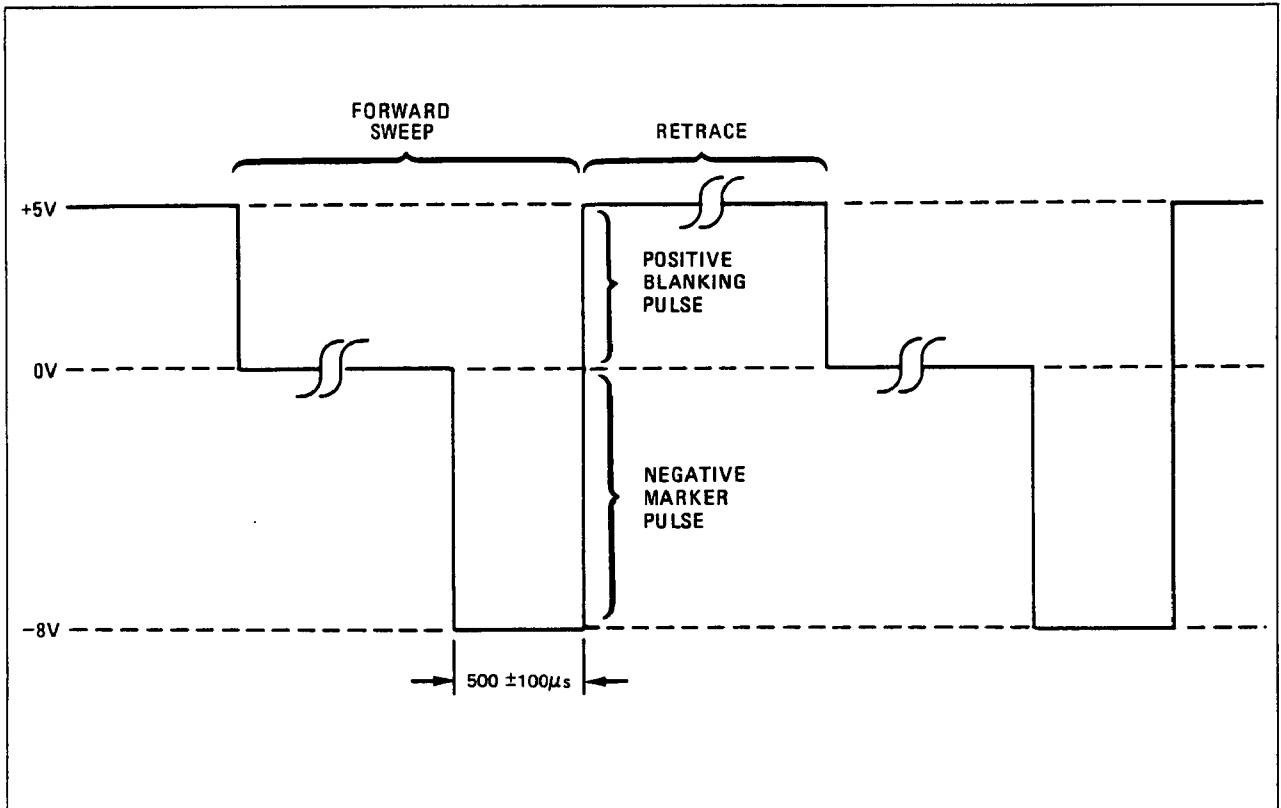

Figure 5-17. Marker DAC Adjustment Waveform
- Adjust A4R28 so the pulse width is  $500 \pm 100 \mu\text{s}$  (5 divisions  $\pm$  1 division on oscilloscope). Refer to Figure 5-17.